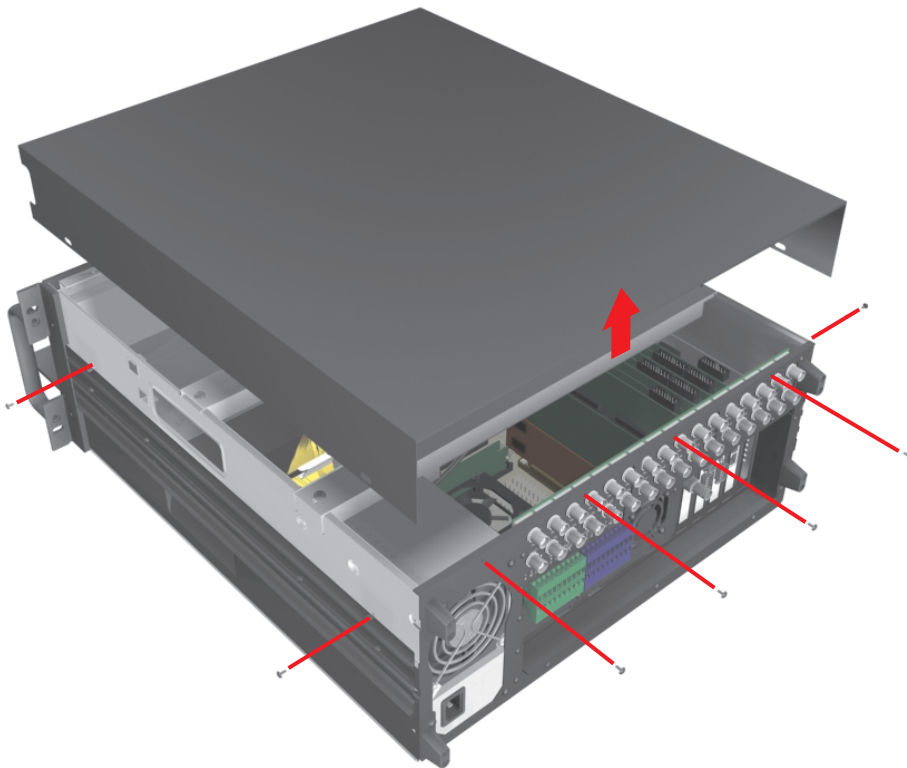

Figure 5. Removing Chassis Cover
- a. Remove the two top-most screws on the left and right side panels of the DX8000. Refer to Figure 5.
- b. Remove the four silver screws fastening the cover to the rear of the unit. These screws are the ones closest to the top of the unit. Refer to Figure 5.